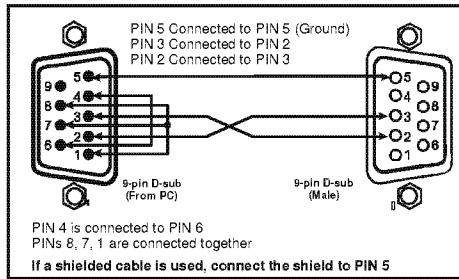

Figure 7: Connecting a PC without using a Null-modem Adapter
- Connect the RS-232 9-pin D-sub port on your PC to the RS-232 9-pin D-sub rear panel port on the **VS-88HCB** unit, as Figure 7 illustrates²